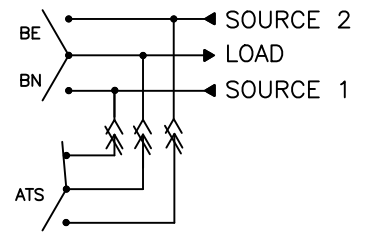

FIG. 1 BP IS OPEN WITH ATS IN SOURCE 1
11. ATS is now fully automatic (Figure 1).